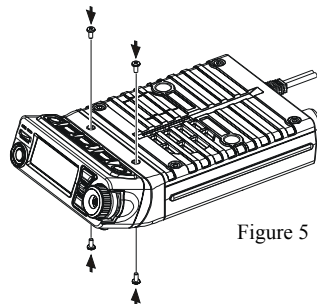

Figure 5
6. Attach the Front Panel (with Angle Sub Panel) to the transceiver’s body, using the previously removed four screws (Figure 5).